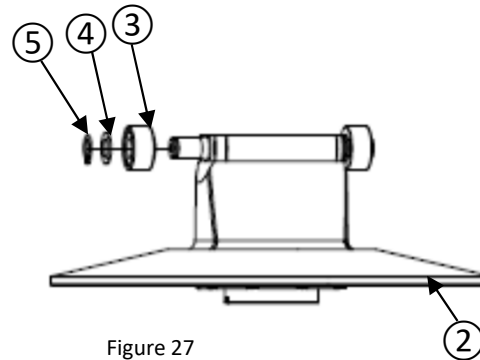

Figure 27
- Insert the 2 rollers ③, the 2 washers ④ and the 2 external retaining rings ⑤ on the roller pins of the sliding sheave ②, using the snap ring pliers (see figures 27 and 28).